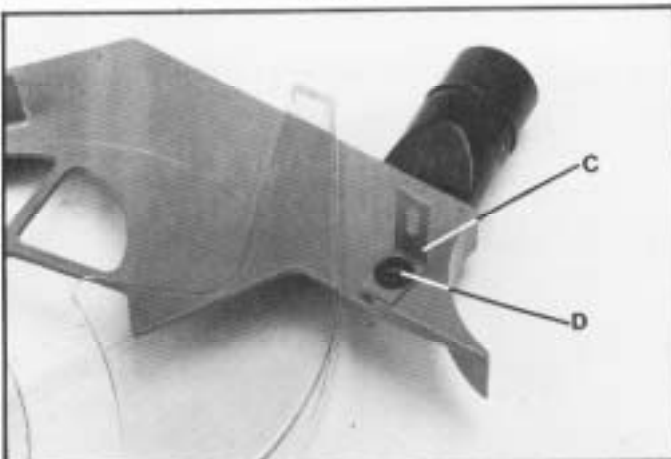

Fig. 6
2. Assemble the short end of "L" bracket (C) Fig. 6, to guard, as shown, using the 1/2" long screw (D), lockwasher and flat washer. Do not completely tighten screw (D) at this time.